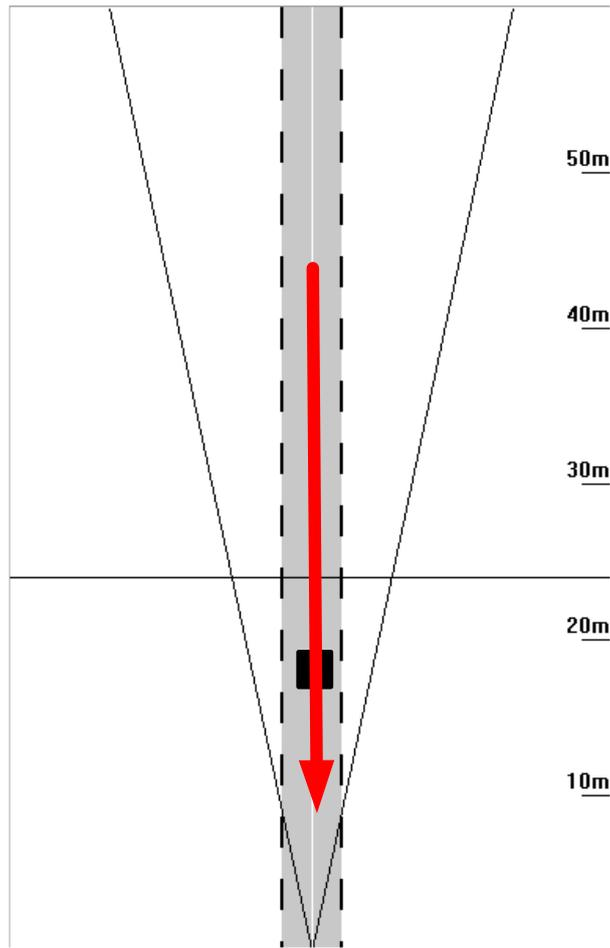

Figure 17 - Schematic diagram of vehicle track
3) Observe vehicle lane: In the track display interface on the left side of the debugging host computer, observe whether the lane of the passing vehicle is upright (start tracking from 40 meters away, the tracking track is in the set lane), as shown in Figure 17. If the lane is too short, the pitch angle of the radar is too large, and the radar needs to be raised upward. Fine tune the "OffsetAngle" angle so that the target's track is parallel to the lane line